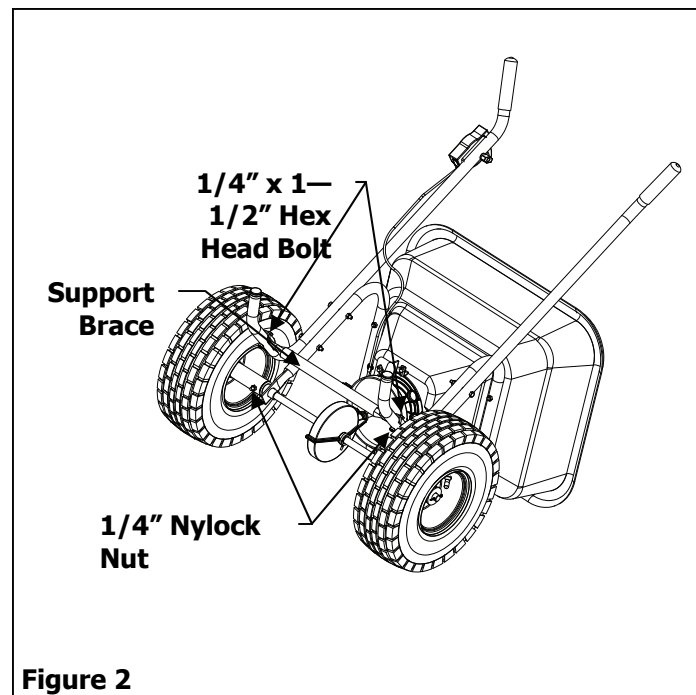

Figure 2
2. Attach the Support Brace to the bottom of the Right Hand Handle and the Left Hand Handle, using 1/4" x 1-1/2" Hex Head Bolts and 1/4" Nylock Nuts. See Figure 2.